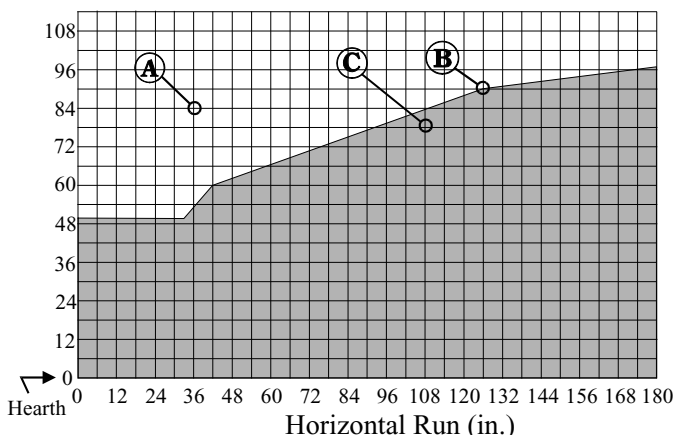

Figure 18a. ME38-ODV-2 Rear Vent Venting Graph
- your vent run must fall within the limits set by Figure 18a
Measure the vertical height from the fireplace hearth to the centre of the termination and the horizontal run from the fireplace flue collar to the wall flange of the termination. Plot on the Venting Graph (Fig. 18a) with an 'X'.
Venting runs *must* fall within the limits set by the venting graph (see Figure 18a).